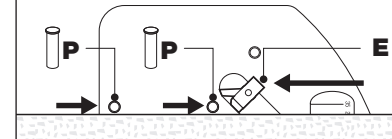

Fig. 4b
- Insert pins and cams and push up to edge of worktop. Place the Worktop True Cut into jig slot as indicated and position up to the postformed edge. - **(Fig. 4b)**